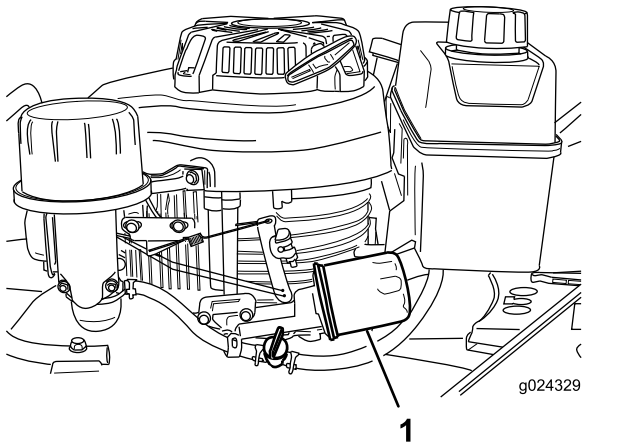

Figure 23
6. Place a rag under the oil filter (Figure 23) to catch any oil that may leak out as you remove the oil filter.